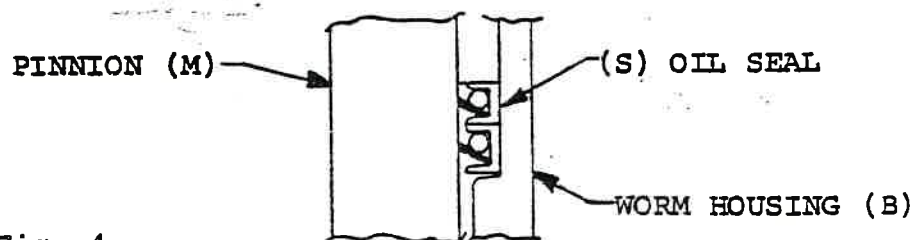

Fig. 4.
1. Mount the pinion bearing inner race (U) on the pinion shaft (M) and install the retaining ring (T). Install the outer race (V) inside the main drive housing bearing packet.
2. Install the oil seals (S) inside the worm housing (B), referring to Fig. 4. The oil seals must be installed as shown with the lips facing upwards.